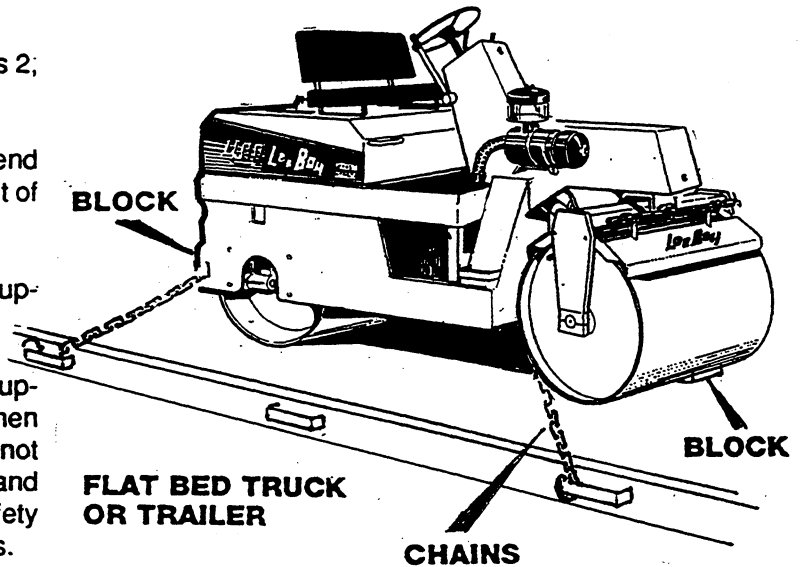

FIGURE 5
3. Secure the roller to the flat bed vehicle with a chain having adequate strength so as not to fail during transporting. Secure roller with chain as shown in figure 5.